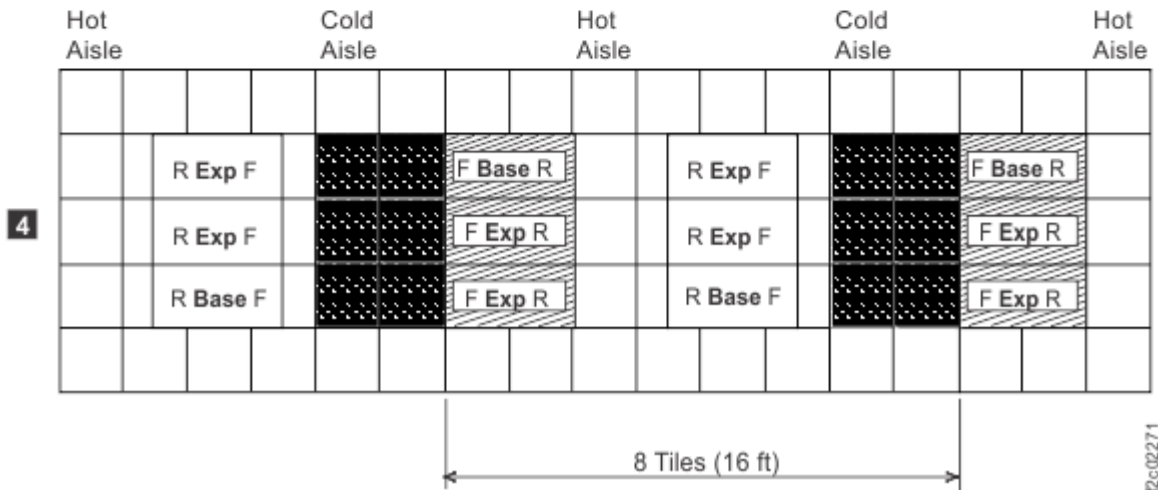

Figure 12. DS8900F layouts and tile setup for cooling
- a. For stand-alone base frames, install two fully perforated tiles in front of each base frame, as shown in Figure 12 on page 103 in the single-machine examples (**1** and **2** in the figure).
- b. For a row of storage systems, install a row of perforated tiles in front of the storage systems as shown in Figure 12 on page 103 (**3** in the figure).
- c. For groupings of storage systems, where a hot aisle/cold aisle layout is used, use a cold aisle row of perforated tiles in front of all storage systems. An example of a possible minimal arrangement is shown in Figure 12 on page 103 (**4** in the figure).
**Note:** Keep in mind that the example represented in Figure 12 on page 103 meets service clearance requirements. However, floor loading requirements might require a wider hot aisle to provide up to 30 inches of non-overlapping clearance (for total of 60 inches between the rear side of the frames on either side of the aisle.)